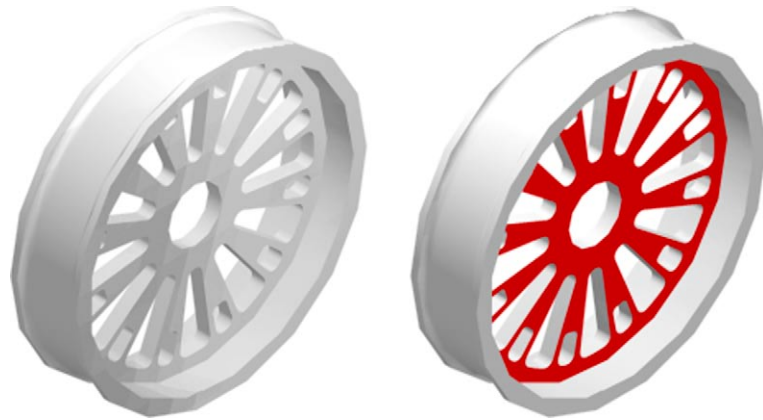

Fig. 18.12 Seventh example – Color faces tool
### Seventh example – Color faces tool (Fig. 18.12)
3. Add lights and a material to the edited 3D model and render (Fig. 18.12).